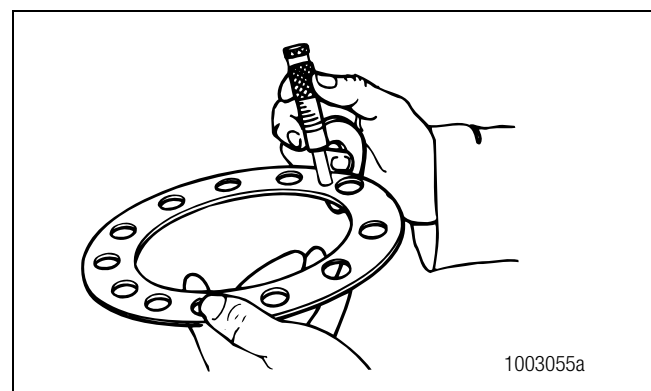

Figure 5.20
1. Use a micrometer to measure the thickness of the shim pack that was removed from under the pinion cage. Record the measurement. Figure 5.20.